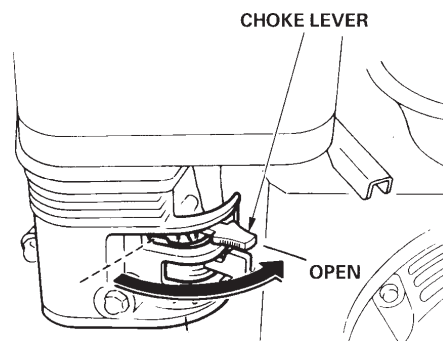

Figure 19. Engine Choke Lever (Open)
4. Place the **choke lever** (Figure 19) in the "OPEN" position if starting a **warm engine** or the **temperature is warm**.
7. If the engine has started, slowly return the choke lever (Figure 19) to the **OPEN** position. If the engine has not started repeat steps 1 through 6.